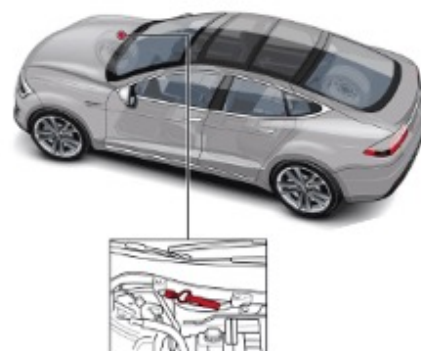

Figure 3. Service connector
7) Disconnect the first responder loop figure 3 and wait for 2 minutes.